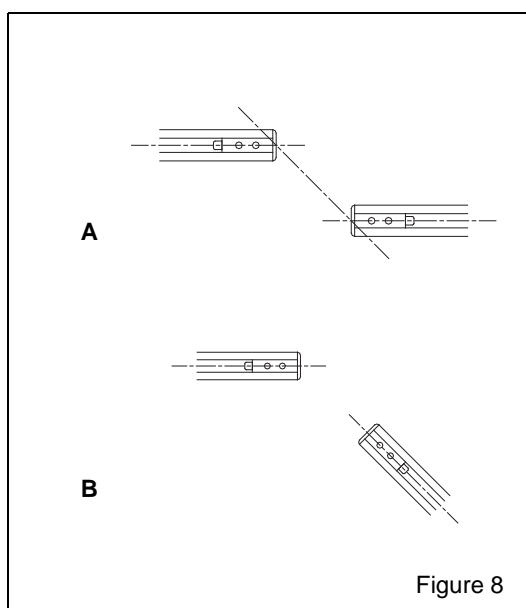

Figure 8
- Non parallel with a 45° angle. See A and B figure 8.